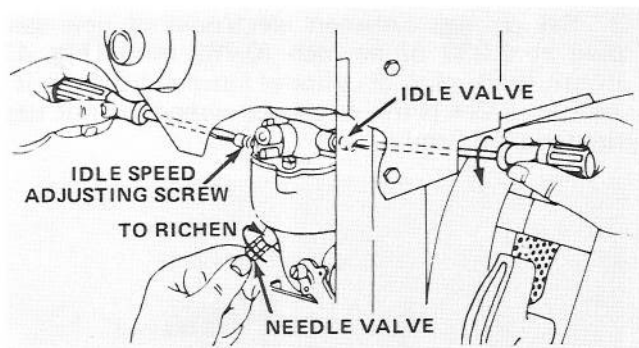

Figure 44
1. Needle Valve (Fig. 44) — Close needle valve finger-tight by gently rotating it clockwise.
2. Rotate — open — needle valve (Fig. 44) 1-1/2 turns counterclockwise.
3. Idle Valve (Fig. 44) — Close idle valve finger-tight by gently rotating it clockwise.
4. Rotate — open — idle valve (Fig. 44) 1/4 to 3/4 of a turn counterclockwise.
6. Rotate needle valve (Fig. 44) clockwise — in — until engine misses because of a lean gasoline mixture. Then rotate needle valve counterclockwise — out — so engine runs unevenly because of a rich gasoline mixture. Next, rotate needle valve clockwise, back to the midpoint between the rich and lean setting so engine runs smoothly.
7. Move throttle control backward to idle speed. Rotate idle speed adjusting screw (Fig. 44) until engine idles fast — 1750 rpm.
8. Rotate idle valve (Fig. 44) clockwise — in — until engine begins to miss because of a lean mixture. Then rotate idle valve counterclockwise — out — until engine runs unevenly because of rich
9. Again, rotate idle speed adjusting screw (Fig. 44) until engine idles at 1750 rpm.